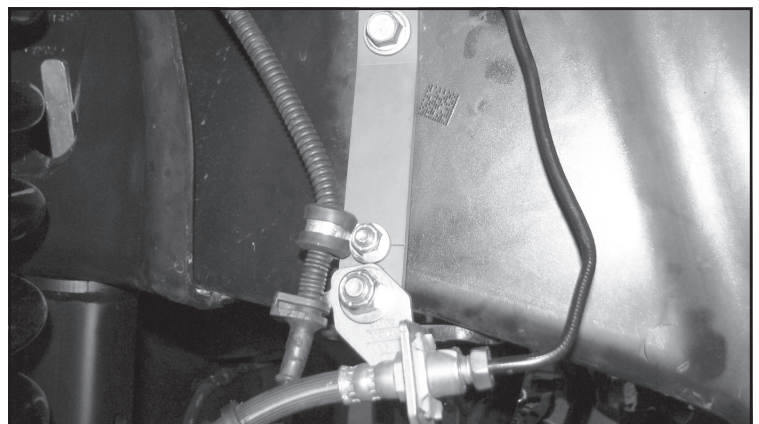

FIGURE 19 - STEP 24
24. **(PASSENGER SIDE)** Install FT30660 (Brake line bracket) to the factory brake line tab using the supplied 3/8" hardware (Use lower hole). Next, using the supplied rubber clamp and 1/4" hardware, attach the ABS line to the upper hole on the FT30660 bracket. Re attach to the frame using the factory hardware. Torque 3/8" & factory hardware to 52 ft-lbs. Torque 1/4" hardware to 14 ft-lbs. **SEE FIGURE 19**